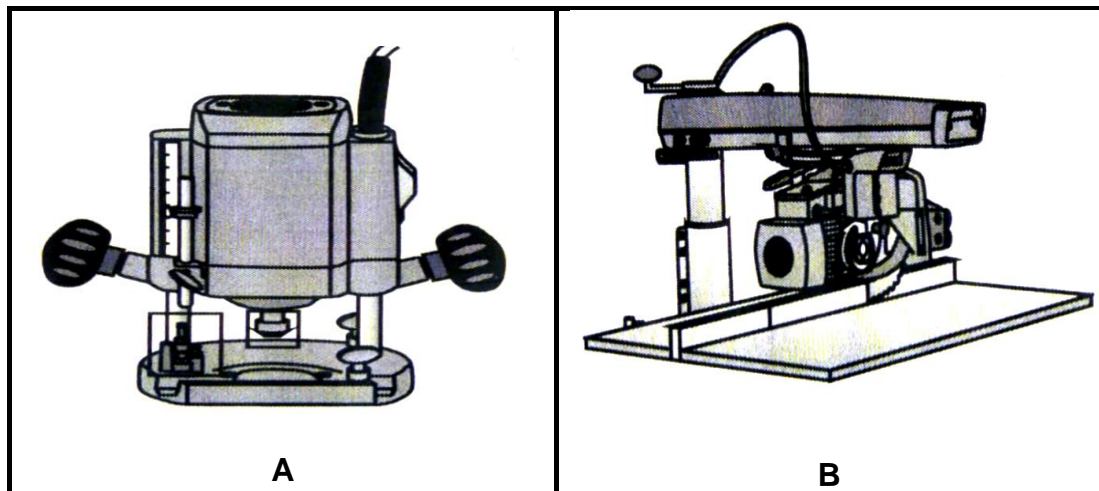

FIGURE 4.1
4.1 FIGURE 4.1 below shows two woodworking machines. Study the pictures and answer the questions that follow.